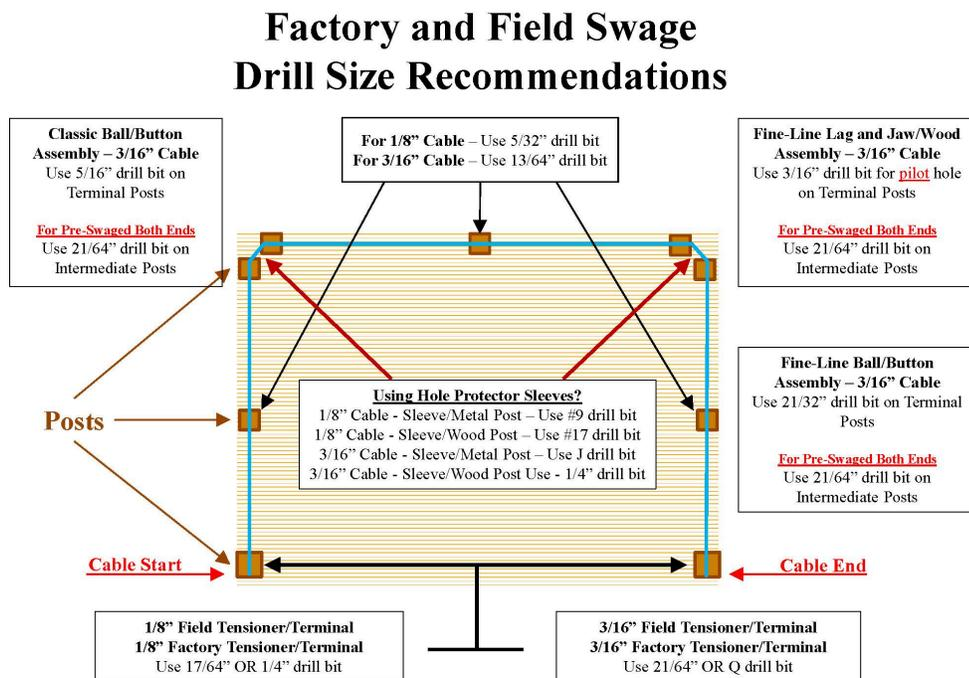

Fig 2
- Do you need to drill holes for the cables? (Fig.2).
**NOTE:** If using Hole Protector Sleeves, install these prior to lacing the cable through the intermediate posts. Reference (Fig. 2) for drill size recommendations.